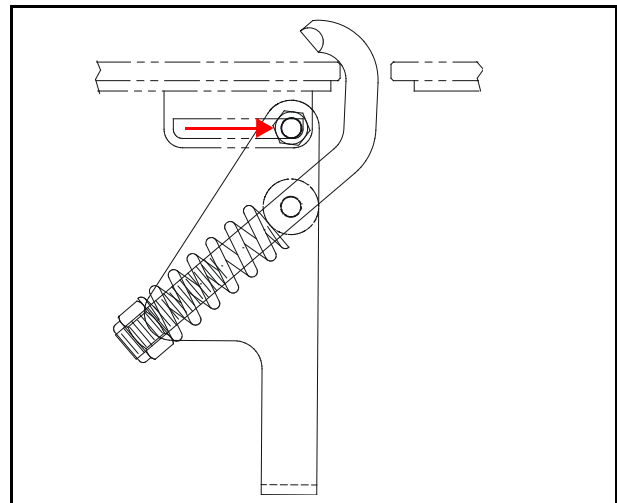

Figure 4-9 Vector-Lock Clamping Procedure
3. Maintain pressure on the hook with your forefinger while rotating the handle until the 1/4" (M6) bolt is forward in the slot (Figure 4-9).
1. Grasp the handle and rotate it away from the side of the shaker until it is positioned as shown in Figure 4-9).
1. Grasp the handle and rotate it away from the side of the shaker until it is positioned as shown in Figure 4-9.